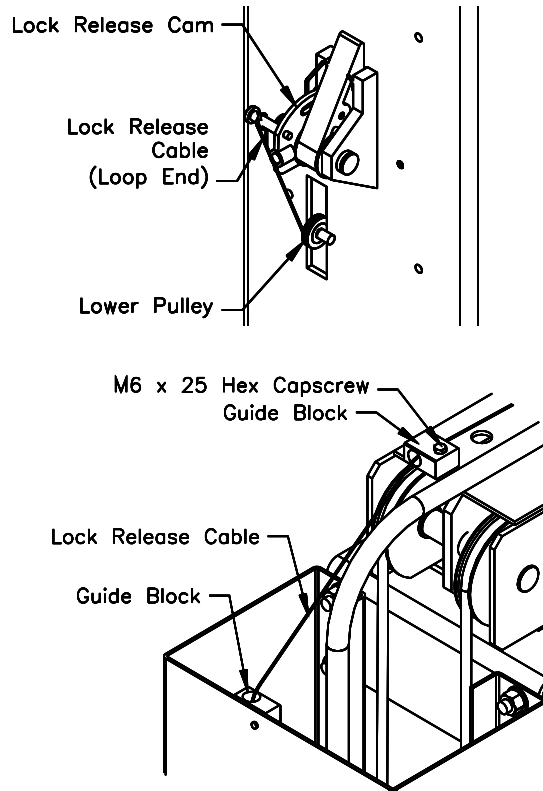

Fig 12 – Idler Side Lock Release Assembly
- 24) While the carriages are still sitting in the locks from the previous steps and starting with the Idler Side, route the Mechanical Lock Release Cable Assembly (Loop End) through the column opening, around the pulley and attach to the lock release cam as seen in **Fig 12**.
- 25) Continue routing the cable up the inside of the Idler Column and extension. Attach two Guide Blocks, one to the top of the Column Extension and the other to the Overhead using the M6 x 25 Hex Capscrews provided. Refer to **Fig 12**.